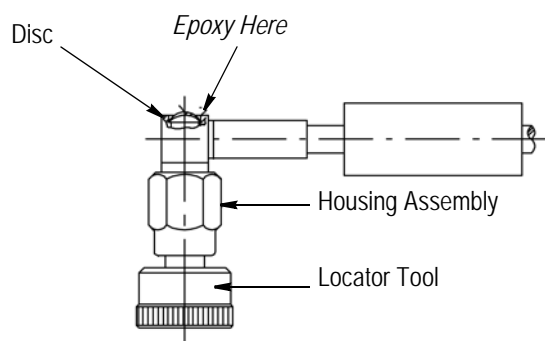

Figure 4
8. Press the disc into the opening at the back of the housing assembly. Epoxy the disc into place. DO NOT allow the epoxy to penetrate the housing assembly. Refer to Figure 4.